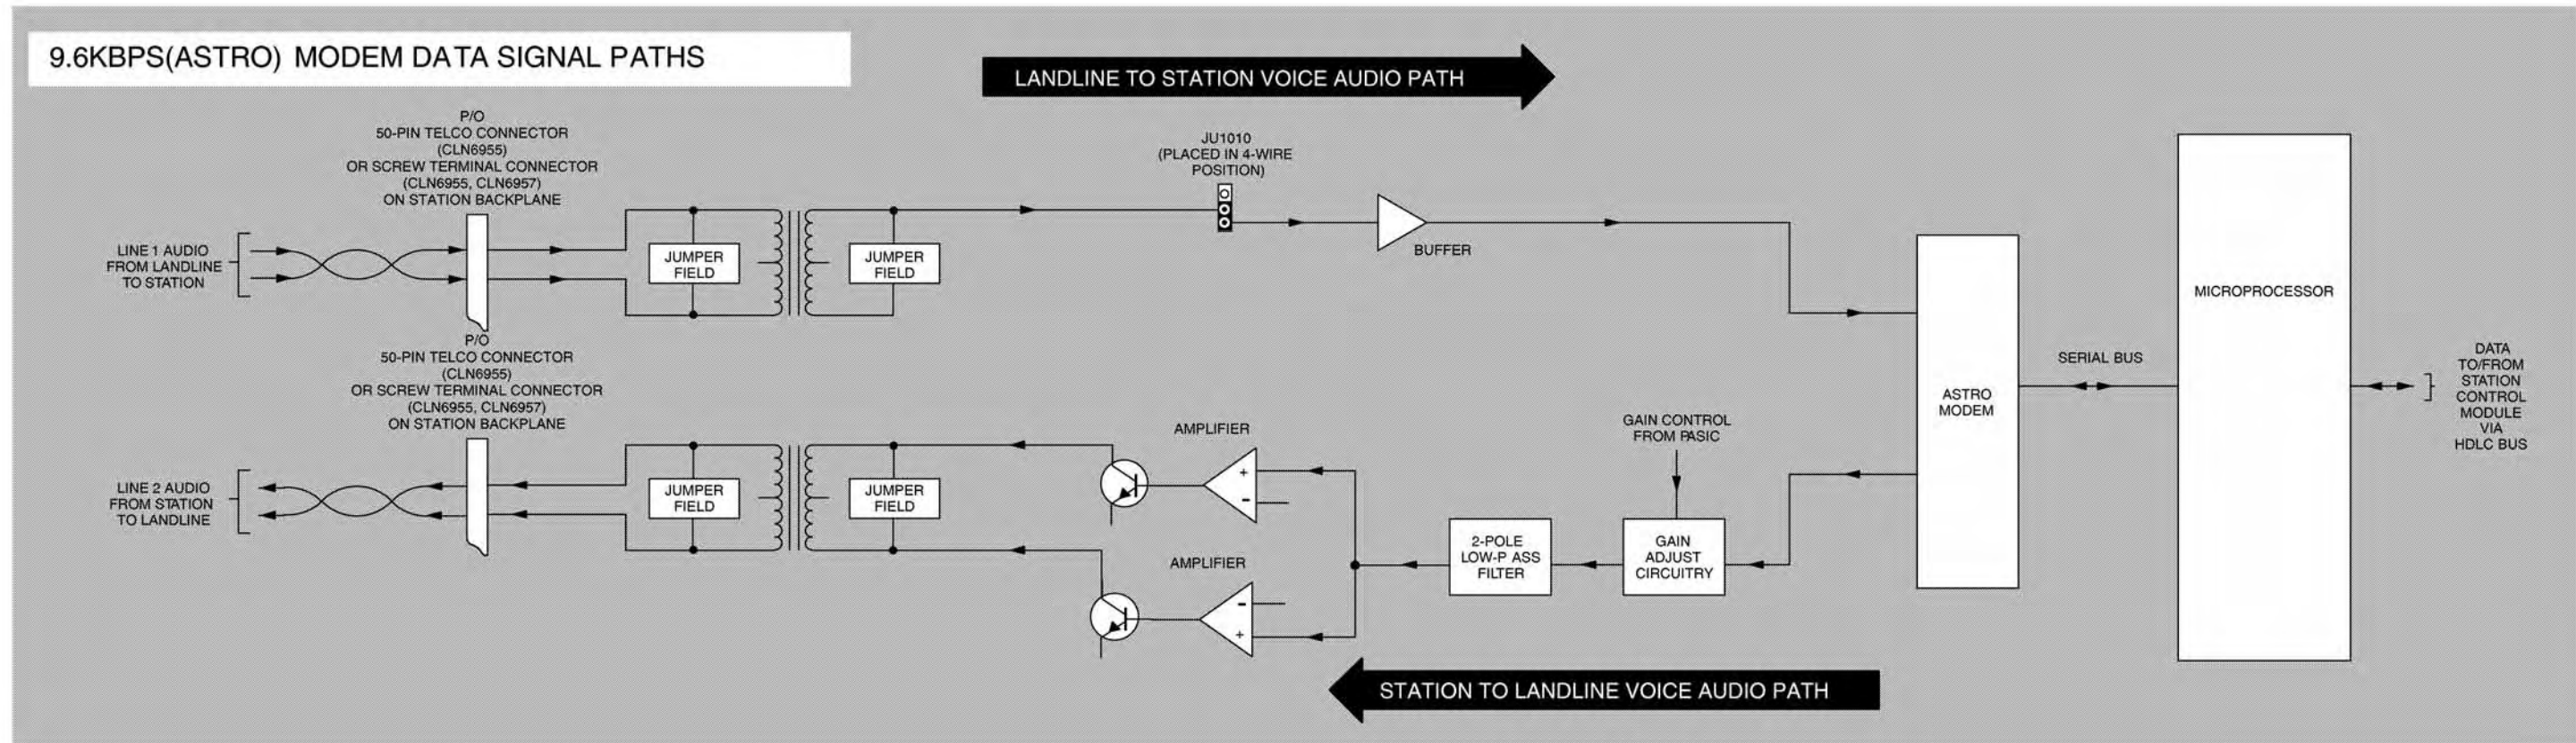

Figure 5 9.6kbps (ASTRO) Modem Data Signal Path Functional Block Diagram
**9.6KBPS (ASTRO) Modem Data Path (Refer to Figure 5)**
The following theory of operation describes the operation of the WIB circuitry at a functional level. The information is presented to give the service technician a basic understanding of the functions performed by the module in order to facilitate maintenance and troubleshooting to the module level. Refer to Figure 2 for an overall block diagram of the WIB, and Figure 3 through Figure 5 for block diagrams for 2-wire voice, 4-wire voice, and 9.6kbps (ASTRO) signal paths.